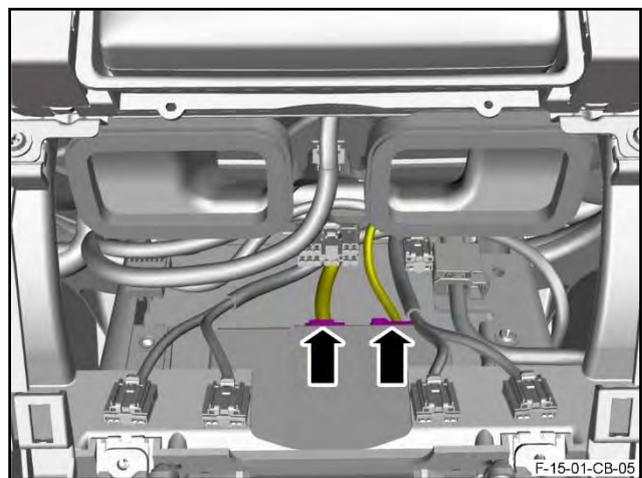

Figure 100
- 136. Connect the two electrical connectors to the Infotainment Control Module (ICM) (refer to Figure 100).